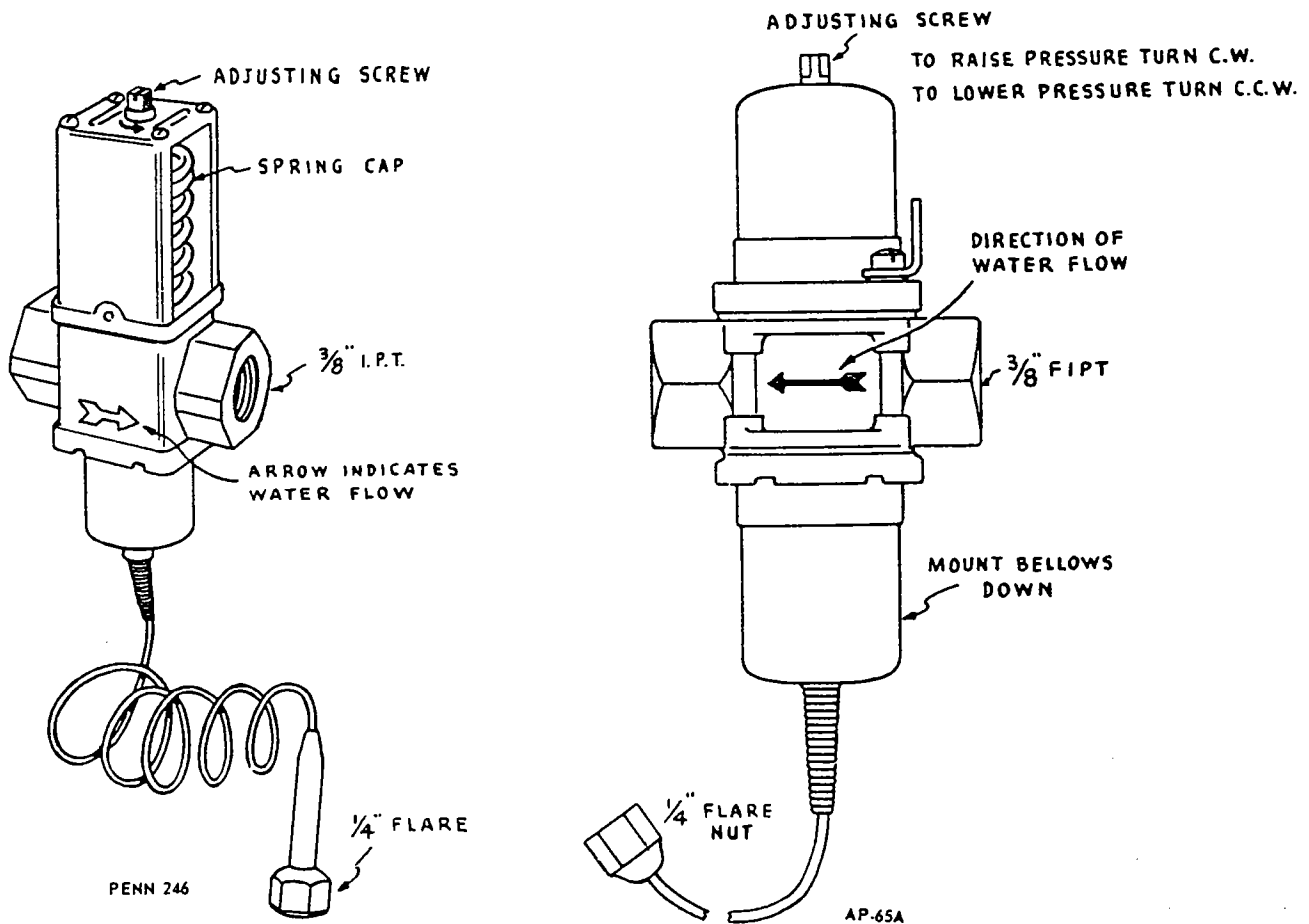

FIG. 30
**SETTING WATER REGULATING VALVE (Factory setting 120 lb.) See Fig. 30**